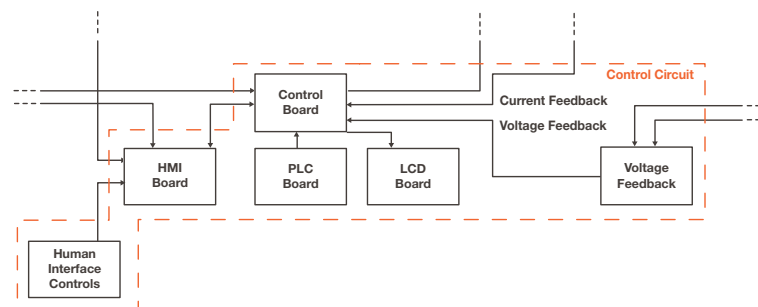

Figure 3-11: Control Circuit Block Diagram
**Figure 3-11** represents the control circuit block. The purpose of the control circuit is to receive the operator's commands, control the operation of the equipment, and monitor/display statuses of the operating parameters of the equipment. The control circuit takes the soft limit set points and drives the MOSFET inverter frequency to control the output inductor. The control circuit also consists of remote interface subsystem where the equipment can be switched on and off manually, remotely or if desired, be controlled automatically as part of a large process control assembly.